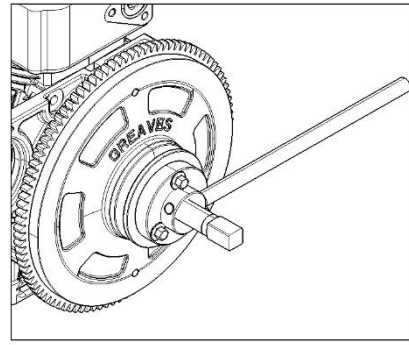

Fig. 6.1
18. Using the puller MS422703 remove the flywheel (Fig. 6.1).